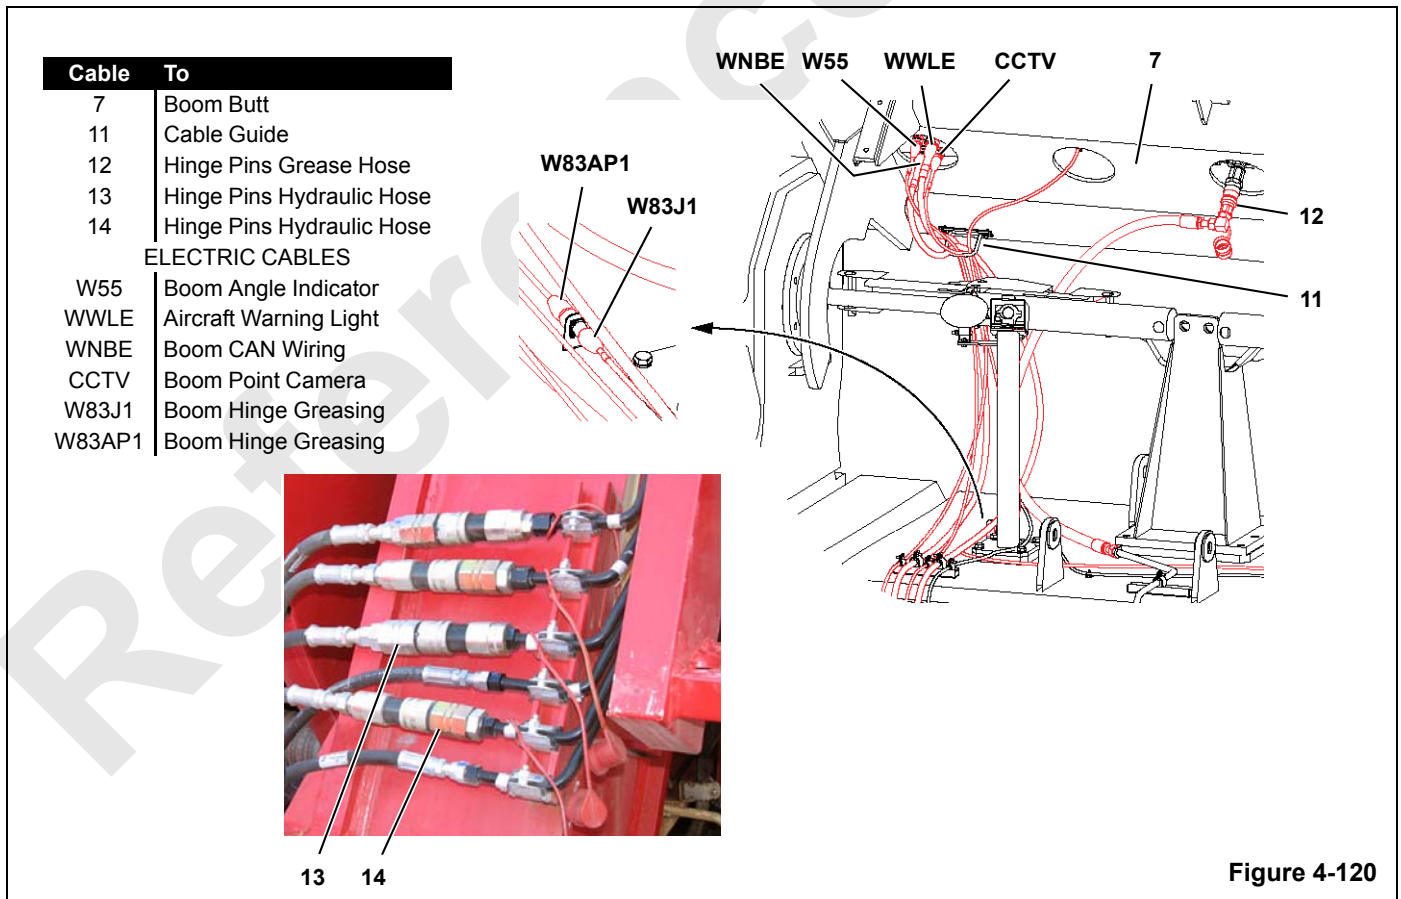

Figure 4-120
7. Connect hydraulic hoses (13 and 14, Figure 4-120) from the boom hinge pins to the couplers on the left side of Drum 3.
See Figure 4-120 for the remaining steps.